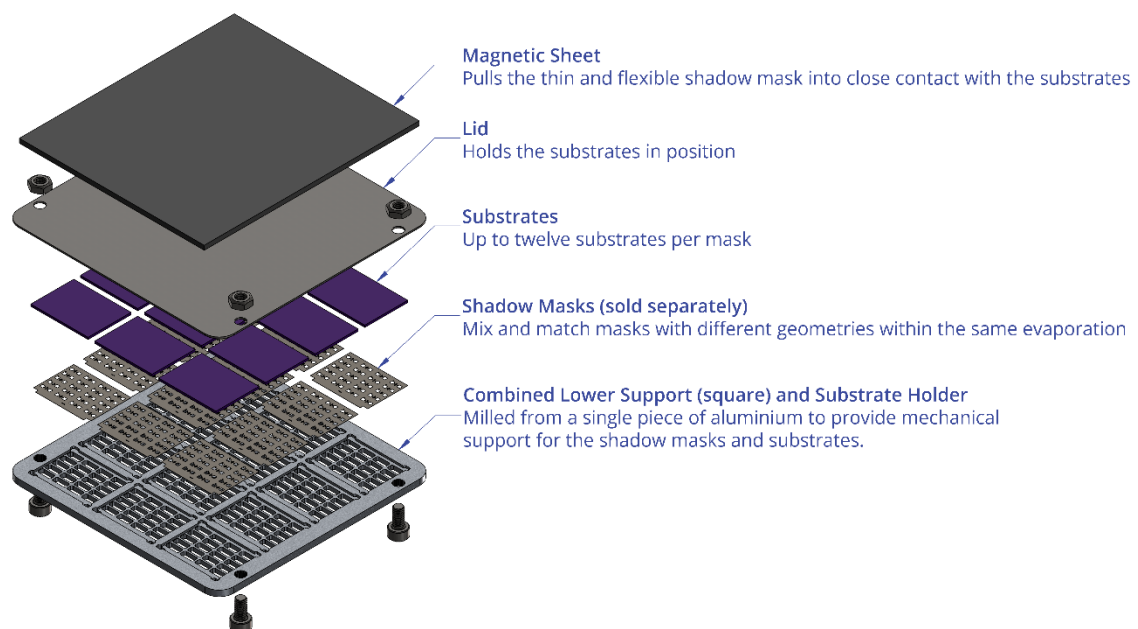

Figure 3.1. High-density evaporation stack assembly.
6. The assembled evaporation stack should be as shown in **Figure 3.1**.